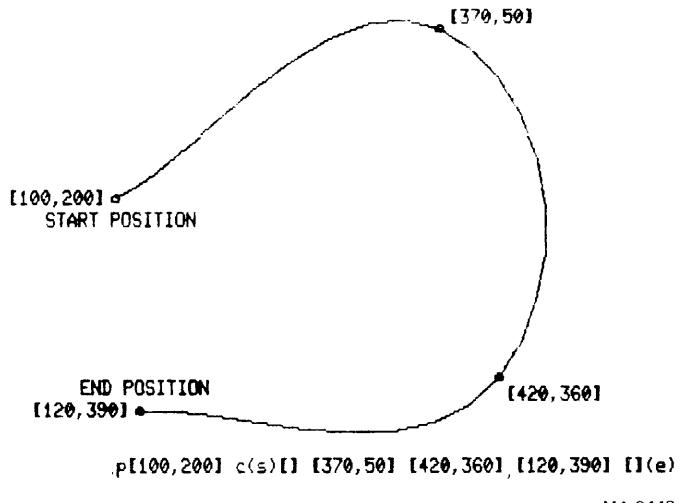

Figure 5-8 Unbounded (Open) Curve
An open curve is a general curve that is made by interpolating the locations of pixels around several specified locations. The endpoints of the open curve are not meant to meet (Figure 5-8). Pay special attention to the endpoints of an open curve to get the graphic object that you want. The open curve option can draw a curve segment with as few as four positions including the position preceding the (S) option. To make sure that segments are drawn between all given positions, include null position specifiers ([]) at the beginning and end of the list of positions. Otherwise, only the segments from the second to the next-to-last positions are drawn.